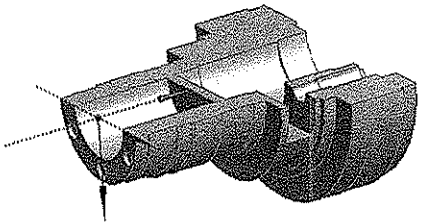

Figure 7-84 Half-section of the model
- 5. Choose the **Generate** tool from the **Features** toolbar; the half section of the model is created, as shown in Figure 7-84.